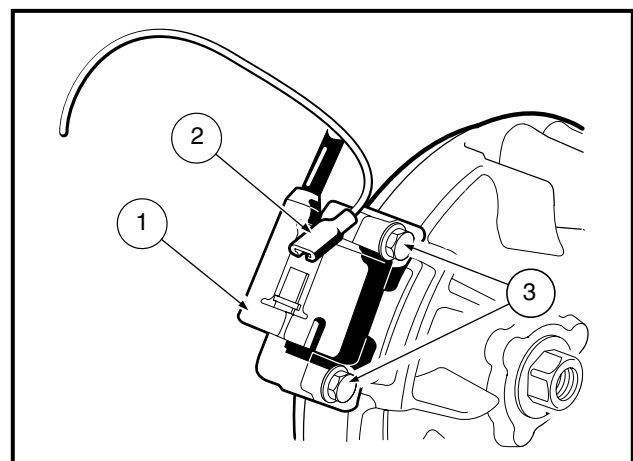

Figure 13-6 Ignition Coil
3. Disconnect the ignition coil (1) from its primary lead wire at the connector (2). Remove the two bolts (3) and take out the ignition coil (Figure 13-6, Page 13-6).